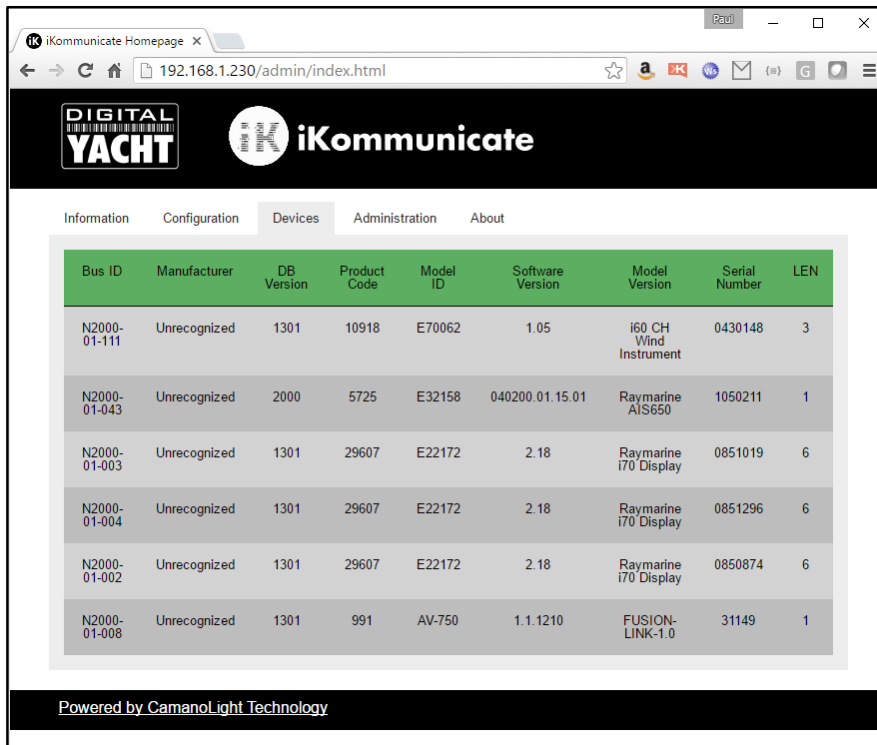

Figure 5
- The “Devices” tab lists all of the devices on the NMEA2000 network as shown below in Fig 5.